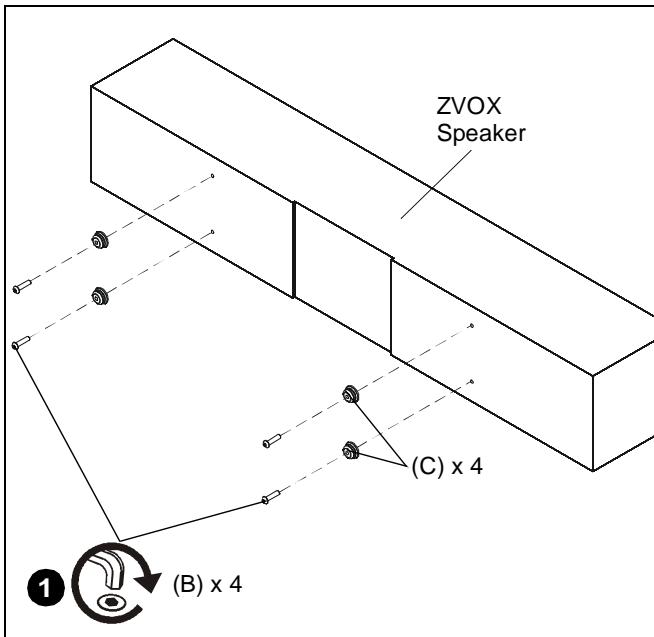

Figure 1
1. Attach four mounting buttons (C) through the upper and lower holes in speaker using four M6 x 25mm button head screws (B). (See Figure 1)